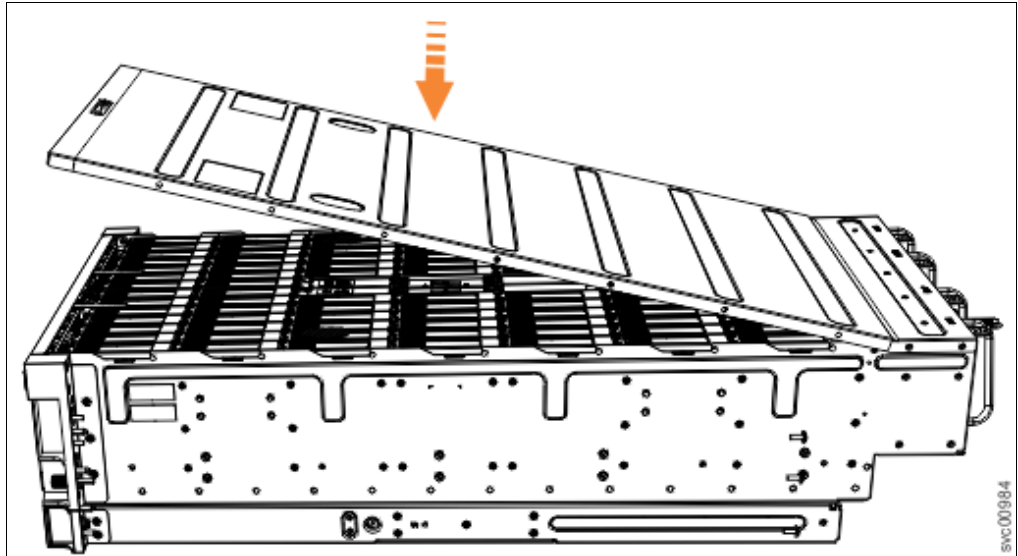

Figure 6-18 Aligning the expansion enclosure top cover
- a. Carefully lower the cover and ensure that it is aligned correctly with the back of the enclosure, as shown in Figure 6-18 on page 183.